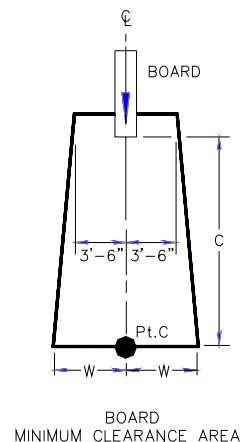

FIG. 15
- B. The minimum clearance area in front of a properly installed diving board on an inground swimming pool is a minimum distance of three feet six inches (3'-6") on either side of the board's centerline as shown in **FIG. 15**. Pt. C extends a minimum distance of "C" from the tip end of the board as shown in **FIG. 15**. The width distance "W" on either side of Pt. C is given in CHART 1 and shown in **FIG. 15**.